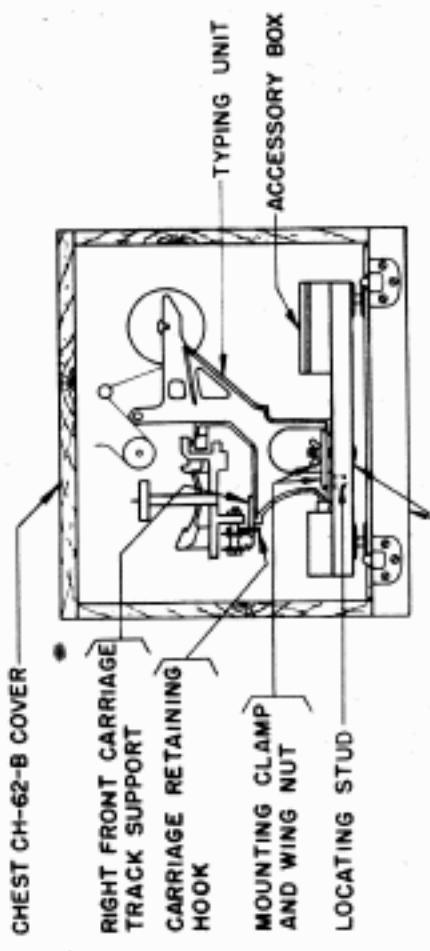

FIGURE 4.
4. PLACE TYPING UNIT ON CHEST CH-62-B BASE AS SHOWN IN FIGURE 4. AFTER MOVING MOUNTING CLAMPS TO ONE SIDE, THEN POSITION CLAMPS ON FEET OF PRINTER AND TIGHTEN WING NUTS. (IMPORTANT: POSITION THE STUDS ON THE TWO SHORT CLAMPS IN PROPER LOCATING HOLES BEFORE TIGHTENING.)
5. PRESS CARRIAGE RETURN LOCK BAR BUTTON (AT LEFT REAR OF TYPING UNIT) TO POSITION CARRIAGE IN ITS LEFT HAND POSITION. HOOK THE LARGE END OF THE "S" SHAPED HOOK ON THE LEFT CARRIAGE ROLLER MOUNTING STUD FROM UNDER SIDE. PRESS THE CARRIAGE RETURN LOCK BAR BUTTON AGAIN AND AT THE SAME TIME MOVE THE CARRIAGE TO THE RIGHT UNTIL THE SMALL END OF HOOK ENGAGES THE LEFT FRONT CARRIAGE TRACK SUPPORT. HOLD CARRIAGE IN THIS POSITION AND HOOK THE LARGE END OF THE OTHER HOOK ON THE RIGHT CARRIAGE ROLLER MOUNTING STUD AND PRESS DOWN ON OTHER END UNTIL HOOK SNAPS INTO PLACE ON THE RIGHT FRONT CARRIAGE TRACK SUPPORT AS SHOWN IN FIGURE 4.